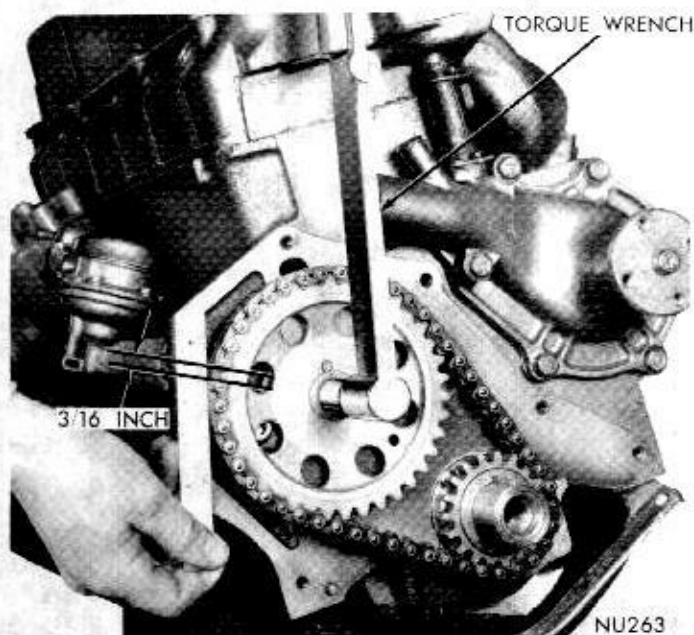

Fig. 19—Measuring Chain Stretch
(1) Place a scale next to the timing chain so that any movement of the chain may be measured.
(2) Place a torque wrench and socket over the camshaft sprocket lock bolt and apply torque in the direction of crankshaft rotation to take up slack; 30 foot-pounds (cylinder head installed) or 15 foot-pounds (cylinder head removed). **With torque applied to the camshaft sprocket bolt, crankshaft should not be permitted to move. It may be necessary to block the crankshaft to prevent rotation.**
(3) Holding a scale with dimensional reading even with the edge of a chain link, apply torque in the reverse direction 30 foot-pounds (cylinder head installed) or 15 foot-pounds (cylinder head removed) and note the amount of chain movement (Fig. 19).
(4) If chain movement exceeds $3/16$ inch, install a new timing chain.
(5) If chain is satisfactory, slide the crankshaft oil slinger over the shaft and up against sprocket (flange away from sprocket).
(6) If chain is not satisfactory, remove camshaft sprocket attaching bolt and remove timing chain with camshaft sprocket.
(7) Turn crankshaft to line up the centerline of camshaft and crankshaft with the timing mark on crankshaft sprocket.
(8) Install camshaft sprocket and timing chain.